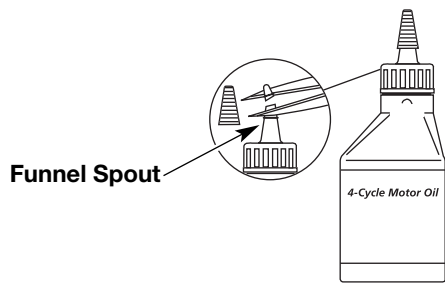

Fig. 5
Your unit is supplied with one 3.04 fluid oz. (90 ml.) bottle of SAE 30 SF, SG, SH oil (Fig. 5).
1. Unscrew the top of the bottle of oil and remove the paper seal covering the opening. Replace the top. Next, cut the tip off the funnel spout (Fig. 5).